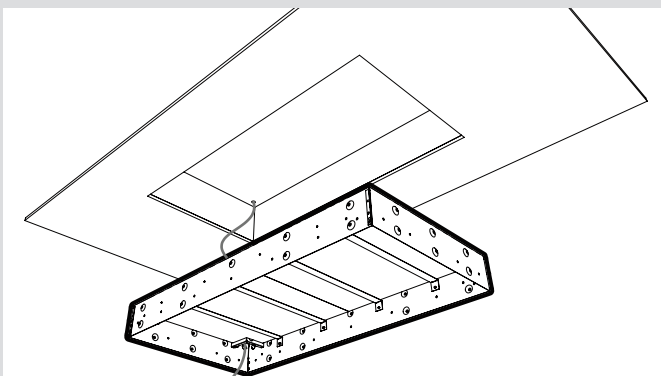

Figure 3
2. Feed the wiring through the junction box of the recessed housing. (Fig. 3).